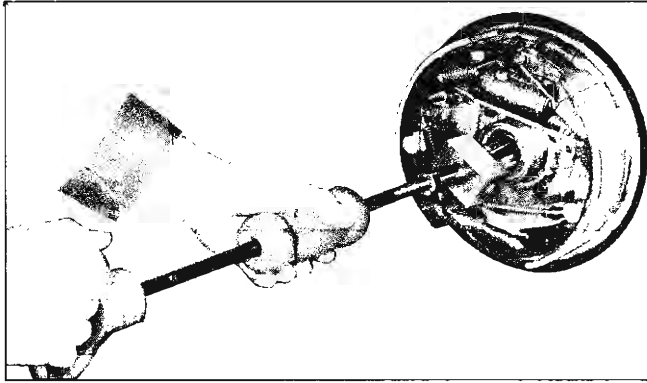
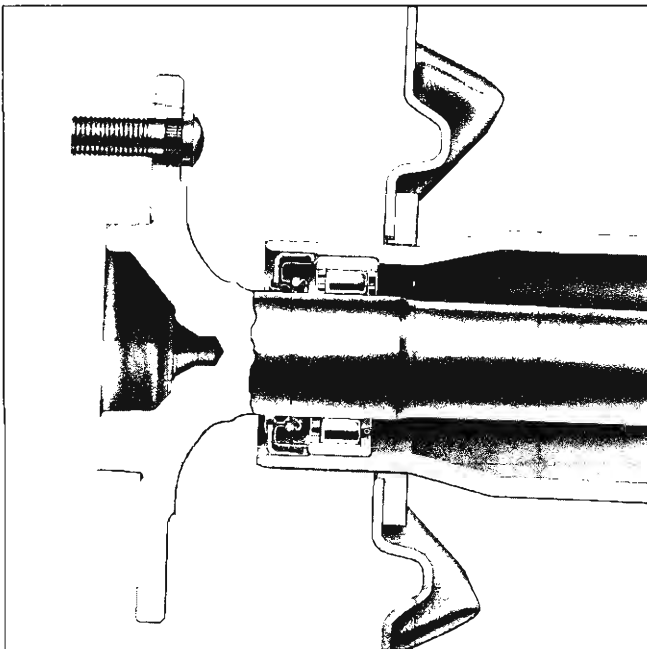

Fig. 42—Wheel Bearing and Oil Seal Removal
Fig. 43—Axle Housing Detail
- Insert Tool J-8119 into bore and position it behind bearing so that tangs on tool engage bearing outer race. Remove oil seal and bearing, using slide hammer as shown in Figure 42. Figure 43 shows a detail of axle housing outer end.